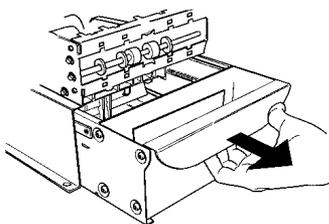

Figure 4-17. Removing note tray from the dispensing mechanism.
2. To remove the note tray, grasp the tray handle and slide the tray out of the mechanism. (Figure 4-17) Place note tray on a flat level surface.